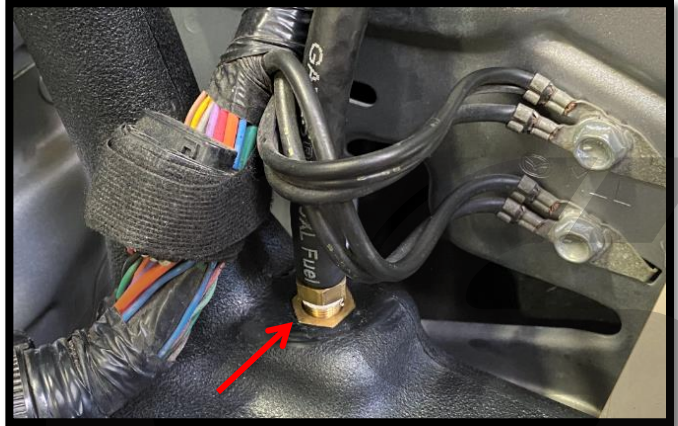

Figure 6b
- b) Install your aux fuel tank vent hose assembly into the bung near the fill neck. Hand tighten into the tank, then tighten fully (about 1.5 turns extra) using a 1/2" or 13mm wrench. Shown in **Figure 6b**.